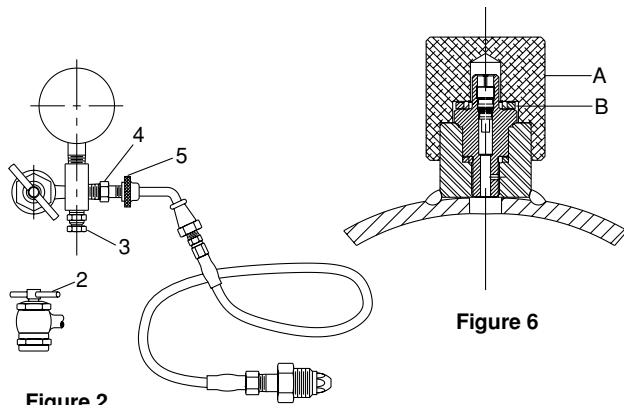

Figure 2
- (AA) Remove gas valve guard (A) and secondary seal (B) from the accumulator. Refer to Figure 2.
- (BB) Torque the gas valve to 9 ft-lbs + 1 (11.5 Nm + 1.3).
- (CC) On the charging device back the gas chuck (2) “T” handle all the way out (counterclockwise) before attaching the chuck to the Diaphragm accumulator.
- (DD) Make sure the bleed valve (3) is closed and tight.
- (EE) Making sure not to loop or twist the hose, attach the Swivel Connector (5) to the charging device gas valve (4) and tighten. (10-15 in lbs (11.5-17 cm kg))
- (FF) Turn the “T” handle (2) clockwise all the way. This action will depress the valve core.
- (GG) Crack open nitrogen bottle valve and slowly fill the accumulator until the button is seated on the fluid port opening, then the nitrogen supply may be fully opened. Shut off the nitrogen supply when gauge movement stops and indicates 110% of desired pre-charge level.
- (HH) Let the pre-charge set for 1 to 2 minutes. This will allow the gas temperature to stabilize. Slowly open bleed valve (3) until the proper pressure is reached.
- (II) When finished precharging, turn “T” handle (2) counterclockwise fully, then open the bleed valve (3) to release residual gas.
- (JJ) Hold the gas valve from turning and remove the charging device.
- (KK) Install secondary seal (B) and valve guard (A).